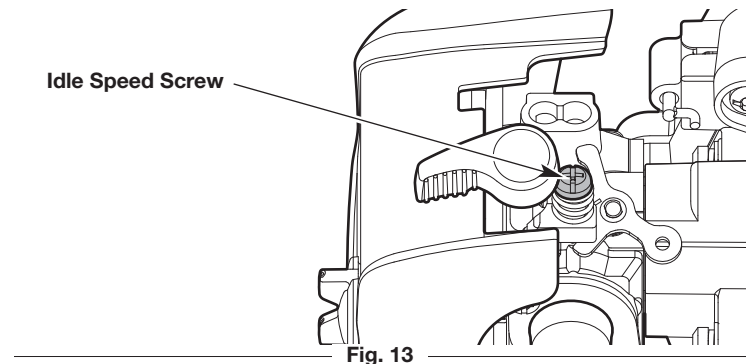

Fig. 13
- If the engine stops, increase the idle speed. Use a small Phillips screwdriver to turn the idle speed screw clockwise, 1/8 of a turn at a time, until the engine idles smoothly (Fig. 13).
- If the tines rotate when the engine idles, reduce the idle speed. Turn the idle speed screw counterclockwise, 1/8 of a turn at a time, until the tines stop moving (Fig. 13).